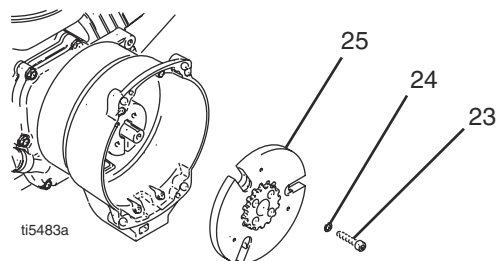

FIG. 7
8. FIG. 7. Use an impact wrench or wedge something between clutch armature (25) and clutch housing to hold engine shaft during removal.
9. Remove four screws (23) and lock washers (24).